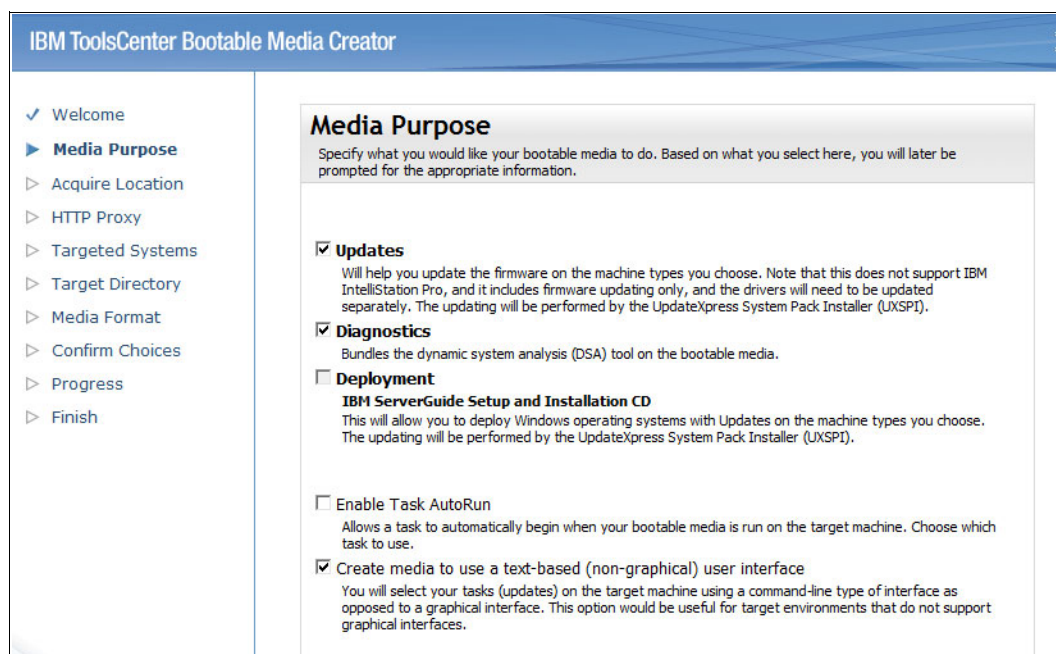
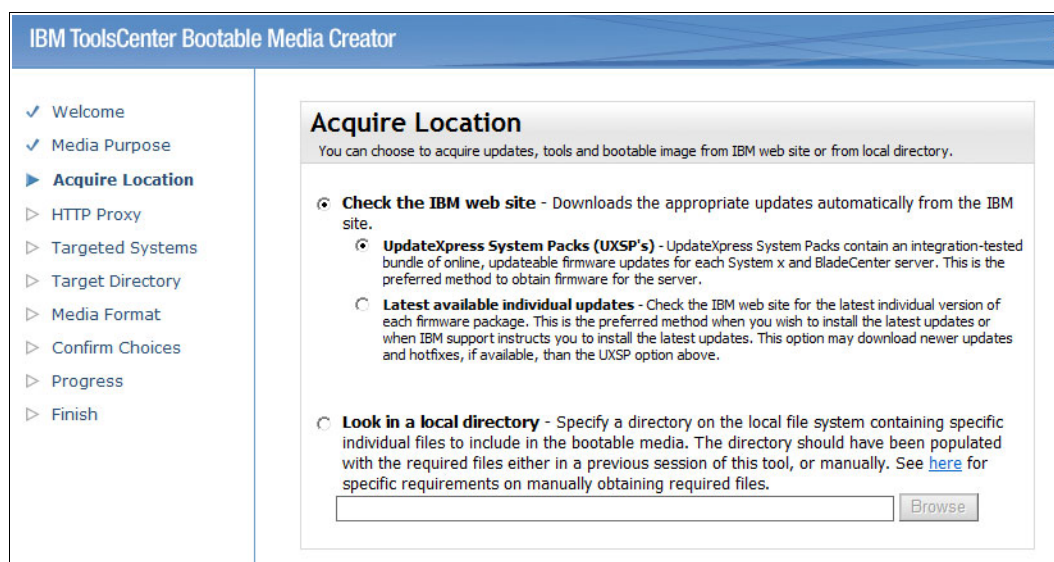

Figure 6-2 BoMC Media Purpose window
Figure 6-3 BoMC Acquire Location window
2. From the Welcome window, you can choose to load a previously saved configuration or to check for the latest version of this tool. Select either one, if applicable. If not, click **Next**. Figure 6-2 shows the Media Purpose window that is after the Welcome window.
3. With the options selected in Figure 6-2 on page 117, click **Next** to go to the Acquire Location window shown in Figure 6-3.